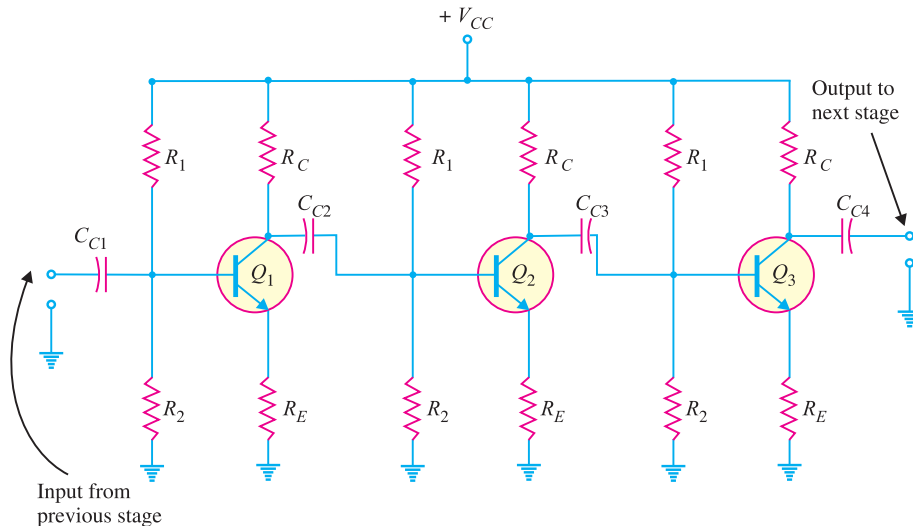

Fig. 11.2
1. As coupling capacitors. In most applications, you will not see a single transistor amplifier. Rather we use a multistage amplifier i.e. a number of transistor amplifiers are connected in series or cascaded. The capacitors are commonly used to connect one amplifier stage to another. When a capacitor is used for this purpose, it is called a *coupling capacitor*. Fig. 11.2 shows the coupling capacitors (C_{C1} ; C_{C2} ; C_{C3} and C_{C4}) in a multistage amplifier. A coupling capacitor performs the following two functions :